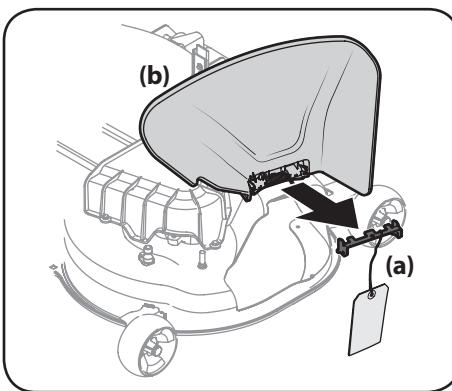

Figure 2-3
- Check the cutting deck for a shipping brace (a) that may be holding the chute deflector (b) upward for shipment. If the shipping brace (a) is present, it must be removed before operating the tractor. Holding the chute deflector (b) fully upward, remove the shipping brace (a). Lower the chute deflector (b) and discard the shipping brace (a). See Figure 2-3.